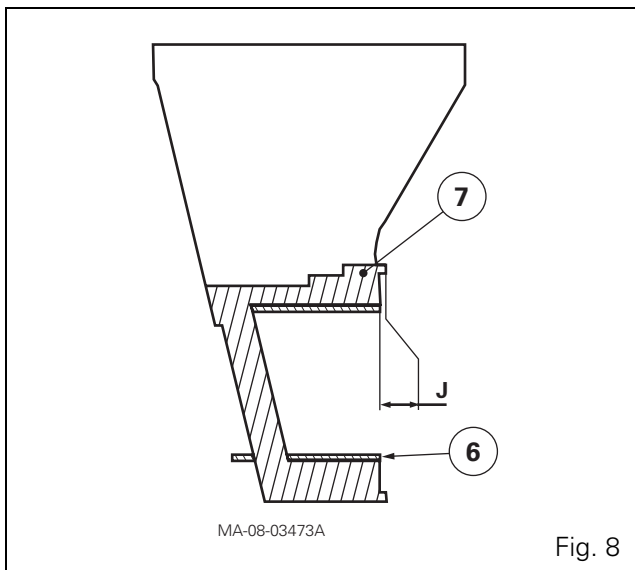

Fig. 8
The ring (6) should be positioned 0.5 - 1.5 mm from the rear face of the front bearing support (Fig. 8).
- 62.** Fit a new ring (4) to the rear bearing. Proceed in the same way as for the front bearing ring.